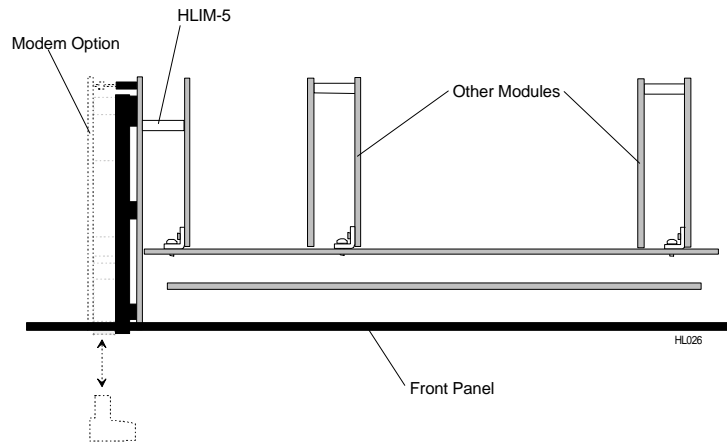

Figure 3... -24: HLIM-5 installation in Port 6
Installation of the HLIM-5 into the OM-320 System Base is unique in that it has a memory card socket that projects through the front panel of the OM-320 (Figure 3... -24). For this reason, the HLIM-5 can only be installed into Backplane Port 6.
3. Follow the instructions specified in the Interface Module Installation, page 3-2 to install the HLIM-5 into the OM-320 Backplane. Note that one circuit board of the HLIM-5 actually fits along the edge of the backplane and nearly touches the metal front panel of the OM-320 (Figure 3... -24). Upon completion of installation, visually insure that